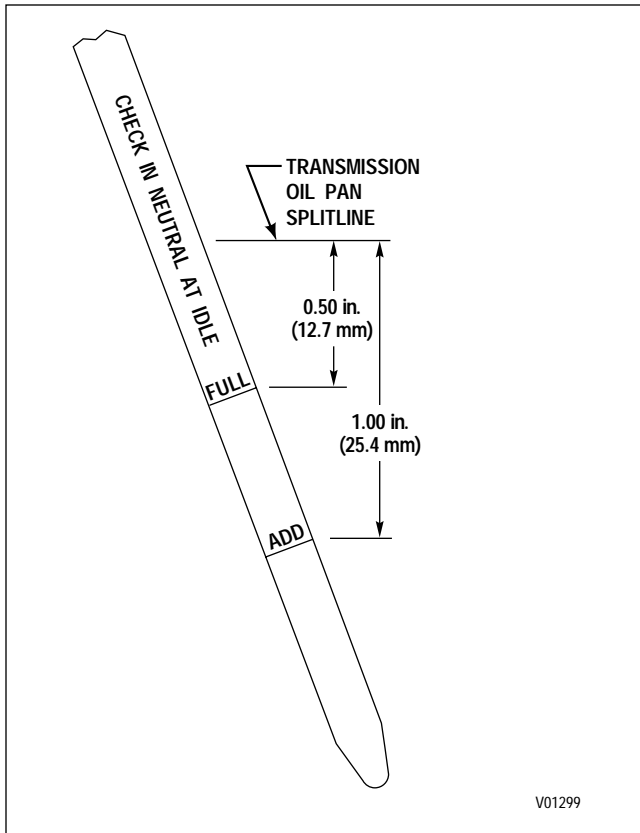
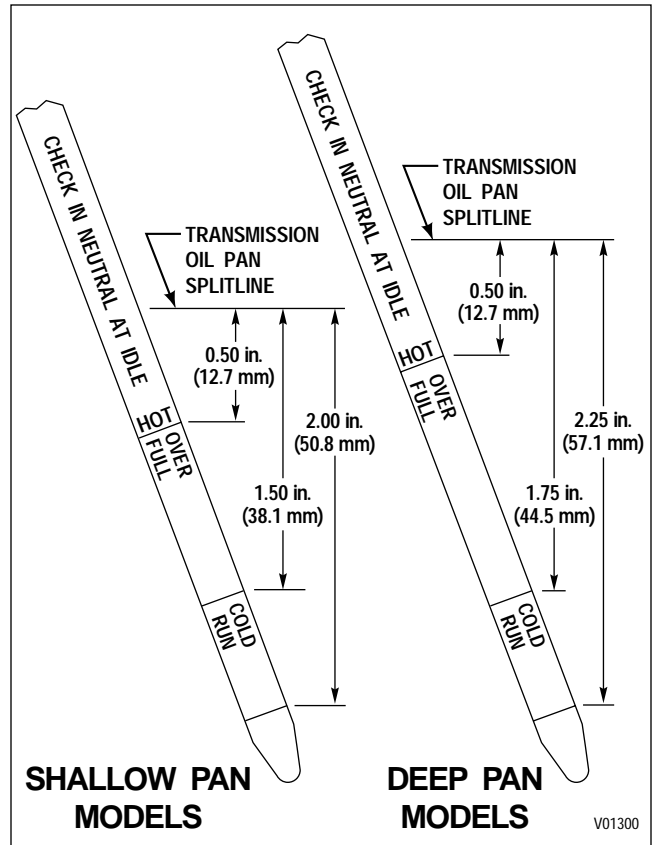
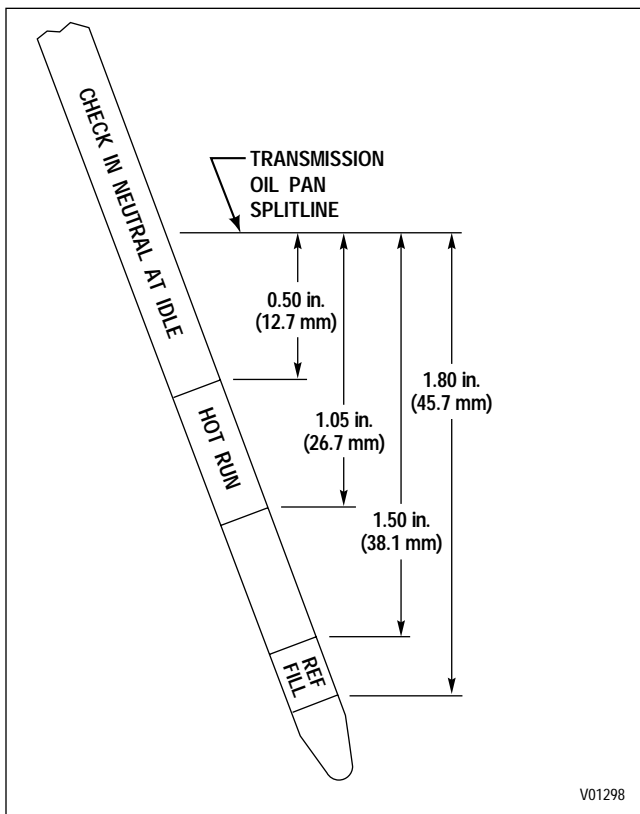

Figure 3-1. Dipstick With FULL and ADD Markings
Figure 3-3. Dipstick With HOT OVERFULL Markings
Figure 3-2. Dipstick With HOT RUN Markings
Three dipstick variations are available for use with the AT 500 and 1500 Series transmissions. The dipstick will have markings similar to those seen in Figure 3-1, 3-2, or 3-3. Variations in fill tube placement and dipstick orientation may change these dimensions slightly.
- **A Cold Check is performed with dipsticks similar to those illustrated in Figure 3-2 and 3-3.**
(1) Park the vehicle on a level surface, apply the parking brake, and block the wheels.
(2) Run the engine at 1000–1500 rpm for one minute to purge air from the system. Allow the engine to idle. Shift to **D** (Drive) and then to **R** (Reverse) to fill the hydraulic circuits with fluid. Then, shift to **N** (Neutral) or **P** (Park). The sump temperature should be 60–120°F (16–50°C).
(3) After wiping the dipstick clean, check the fluid level. If the fluid level is within the REF FILL (COLD RUN) band (Figures 3-2, 3-3), the level is satisfactory for operating the transmission until the fluid is hot enough to perform a Hot Check. If the fluid level is not within these parameters, raise or lower the fluid level to bring it within the band.
(4) Perform a Hot Check at the first opportunity after normal operating temperature is reached (160–200°F (71–93°C) sump temperature; 180–220°F (82–104°C) converter-out temperature).
A Hot Check is performed with all dipstick designs (Figures 3-1 through 3-3).
(1) Operate the transmission until normal operating temperature is reached (160–200°F (71–93°C) sump temperature; 180–220°F (82–104°C) converter-out temperature). Shift to **D** (Drive) and then to **R** (Reverse) to fill the hydraulic circuits with fluid.
(2) Park the vehicle on a level surface and shift to **N** (Neutral) or **P** (Park). Apply the parking brake, block the wheels, and allow the engine to idle.
(3) After wiping the dipstick clean, check the fluid level. The safe operating level is anywhere between the FULL and ADD lines (Figure 3-1), within the HOT RUN band (Figure 3-2), or below the HOT OVERFULL mark and above the COLD RUN band (Figure 3-3).
(4) If the fluid level is outside of these parameters, raise or lower the fluid level to bring it within the correct markings on the dipstick.